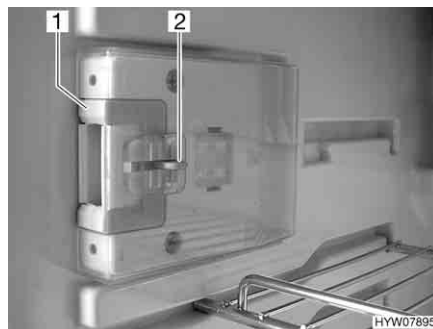
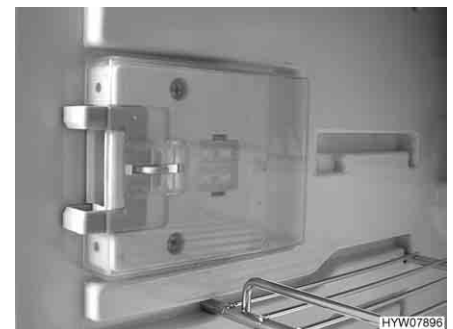

Fig. 175 Locking device in normal position
Fig. 176 Locking device in ventilation position
- Press down the unlocking device (Fig. 175,2).
- Push locking device (Fig. 175,1) forwards (Fig. 176).